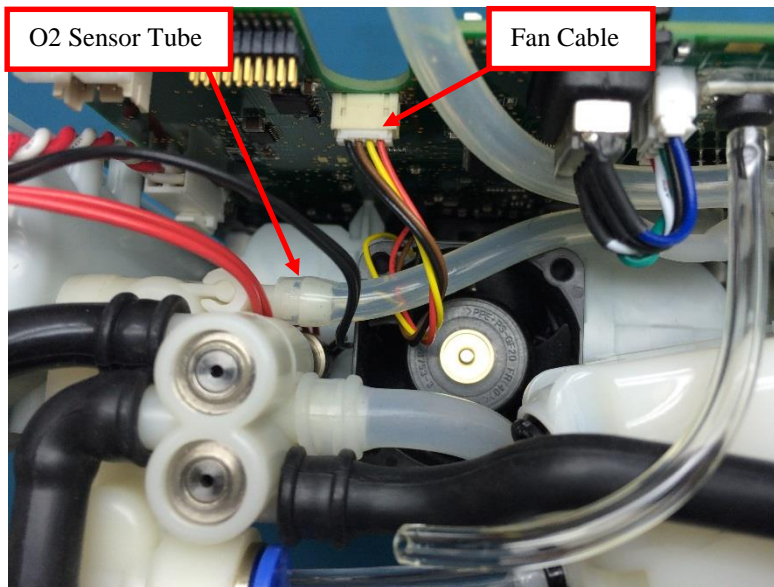

Figure 10: Disconnect fan cable and O2 Sensor Tube
- Carefully pull the motherboard about a half inch away from the device, making sure not to bend it in any way. With the cables and tubing exposed, gently unplug the fan cable from the motherboard, then detach the O2 Sensor Tube from the Product Manifold by pulling the tube off of the barb (Figure 10).
3. To re-install the motherboard, make sure the chassis pegs are aligned with the holes in the motherboard. Then reattach the accumulator tubing and the oxygen sensor tubing (Figure 10). Gently pull on each tube/cable to ensure a complete connection.